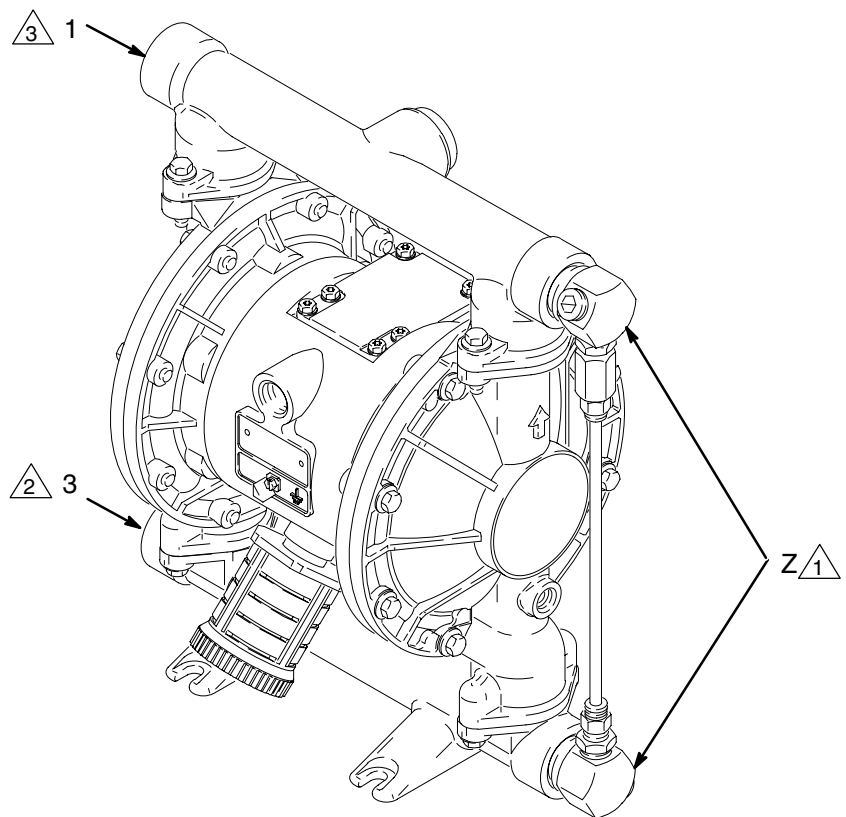

Fig. 7
Pressure Relief Kit 238428 (Z) is available, to prevent overpressurization and rupture of the pump or hose. See Fig. 7. The kit includes instructions.